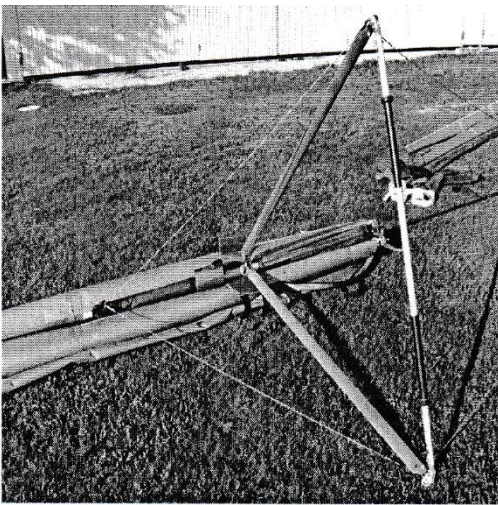

Figure 6
4. Turn the wing on one side and spread the control frame down tubes. install the control bar according to the markings. Fix the control bar with bolts and nuts so, that fixing nuts are pointing backwards, against the direction of flight (fig.6).